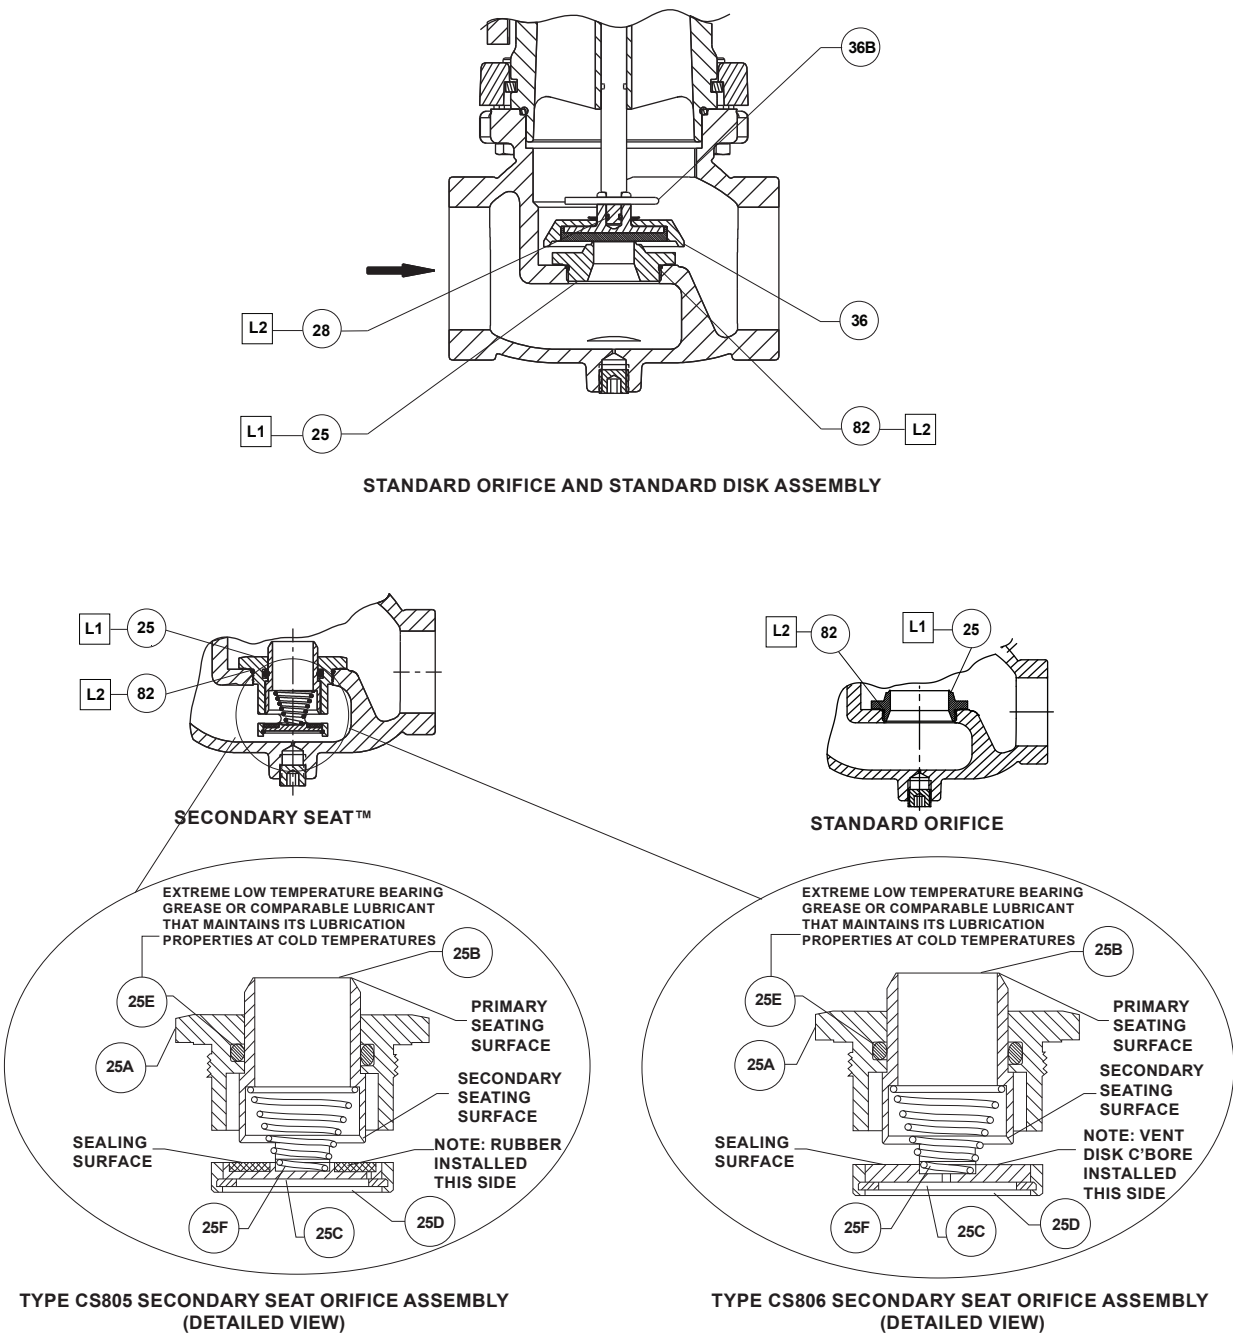

Figure 12. CS800 Series Base Orifice and Secondary Seat (For Types CS805 and CS806) Assemblies
3. Examine the disk assembly (key 36) for nicks, cuts and other damage. To replace, remove the disk retainer clip (key 36B) and slide the disk assembly off of the stem (key 11).
4. See Figure 12. Remove the orifice assembly from the body using a 2 in. / 50 mm socket wrench.
5. Remove the Secondary Seat disk (key 25C), spring (key 25F) and double sided orifice (key 25B). Finally, remove the orifice O-ring (key 25E). Lubricate O-ring with extreme low temperature bearing grease or similar lubricant that maintains its lubrication properties at cold temperatures and replace O-ring. Insert the new double-sided orifice (key 25B), then the spring (key 25F), ensuring that the larger diameter opening is contacting the shelf of the orifice.
6. Replace the Secondary Seat disk (key 25C). See Figure 12.
7. Press the disk inside the housing (key 25A) to allow the internal retaining ring to be reinserted.
It is recommended that a good quality pipe thread sealant be applied to pressure connections and fittings and a good quality lubricant be applied to all O-rings. Also apply an anti-seize compound to the adjusting screw threads and other areas as needed. Reference Figures 12 through 19 to determine the recommended lubricant/sealant/adhesive for these parts. All lubricants/sealants/adhesives must be selected such that they meet the temperature requirements.
When reassembling, torque bolts and fasteners per torque values are indicated on Figures 12 through 19. Some relaxation from initial torque values may occur. Always tighten bolts in a cross pattern.